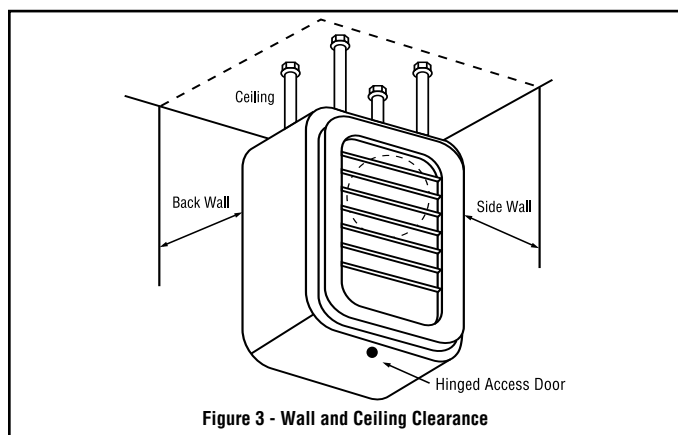

Figure 3 - Wall and Ceiling Clearance
- B.** Securely attach the four (4) mounting rods to the ceiling. (Refer to Table 4 for wall and ceiling clearances, and Figure 3 for mounting spacing Specifications.)
5. The bottom access door is hinged. There is one screw that must be loosened to gain access (Figure 3). This screw is the captive type; do not try to remove it.